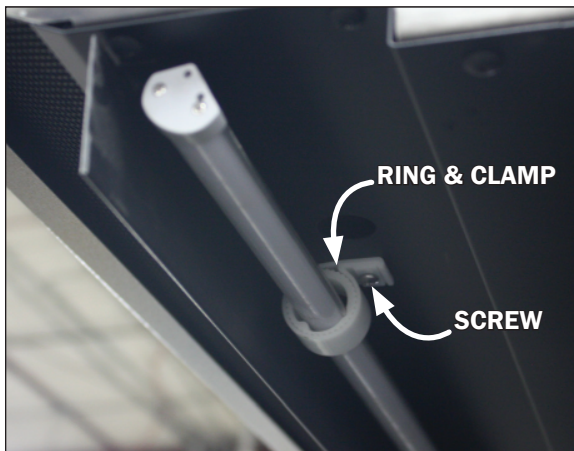

Fig. 12 LED light & ring/clamp
2. Remove the screws from the light clamps (Fig. 12) while keeping ahold of the light. Once the screws are removed the light rod will come away from the case with the clamps still holding to the light.